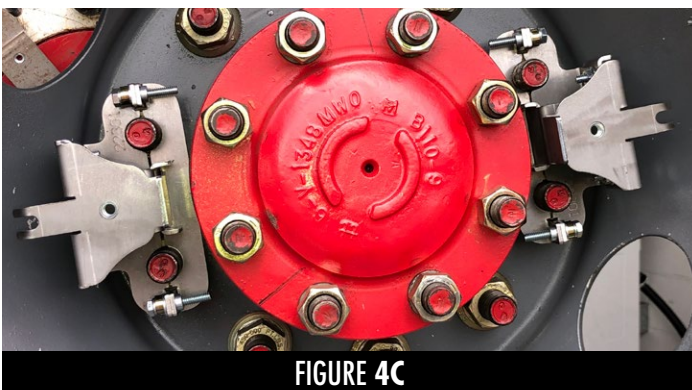

FIGURE 4C
**NOTE:** One side of the bracket may raise up a little depending what thread of the stud it wedges into, this is normal. Make sure the bracket is flat across the face and wedging into the threads of the wheel studs. Tighten the bolt until both halves are together, securing the bracket tightly. (See Fig. 4B) Repeat procedure for other side directly opposite. (See Fig. 4C)